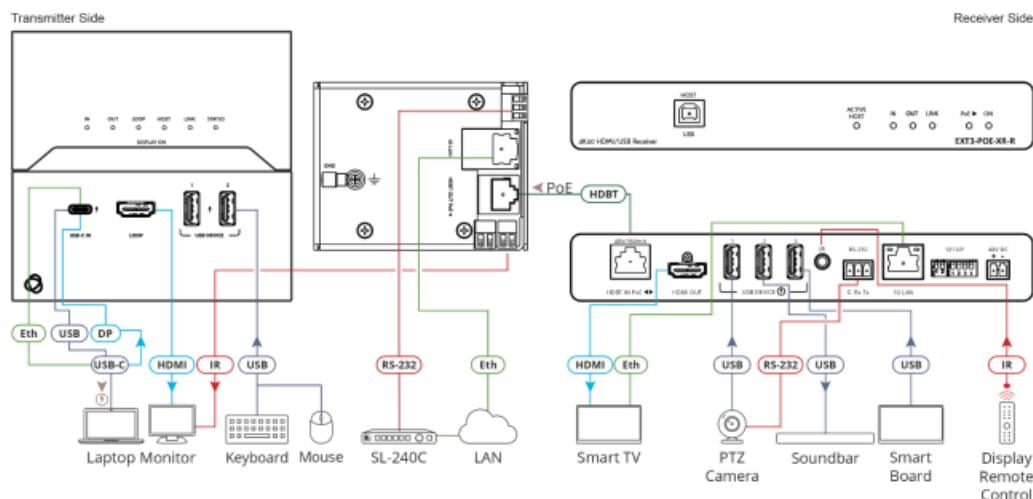

Figure 6: Connecting EXT3-C-WP-XR-T to EXT3-POE-XR-R
In the example in Figure 6, the connected USB devices, such as the mic or soundbar, are hosted via the
To connect EXT3-C-WP-XR-T to EXT3-POE-XR-R as illustrated in the example in Figure 6:
9. Connect the power adapter to EXT3-C-WP-XR-T and to the mains electricity (not shown in Figure 6). To charge the device that is connected to the USB-C port, you need to use a power adapter for powering the EXT3-C-WP-XR-T transmitter.
10. Connect the power adapter to EXT3-POE-XR-R and to the mains electricity (not shown in Figure 6). EXT3-C-WP-XR-T and EXT3-POE-XR-R are connected.
To connect EXT3-C-WP-XR-T (EU/UK) to EXT3-POE-XR-R as illustrated in the example in Figure 6: